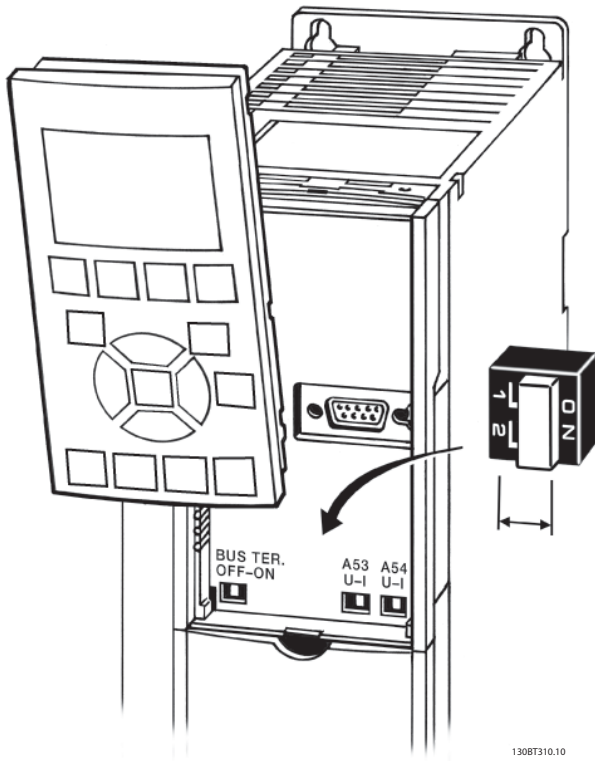

Figure 2.27 Location of Terminals 53 and 54 Switches
- The switches are accessible when the LCP has been removed (see *Figure 2.27*).